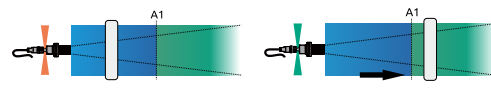

Figure 16 - Single trigger when target is removed
- When the moving distance (S) of the object is greater than the set distance (A1), the output signal switches. The working principle is shown in Figure 16. When operating, it is necessary to set a custom user range: A1 = S, A2 = ∞.